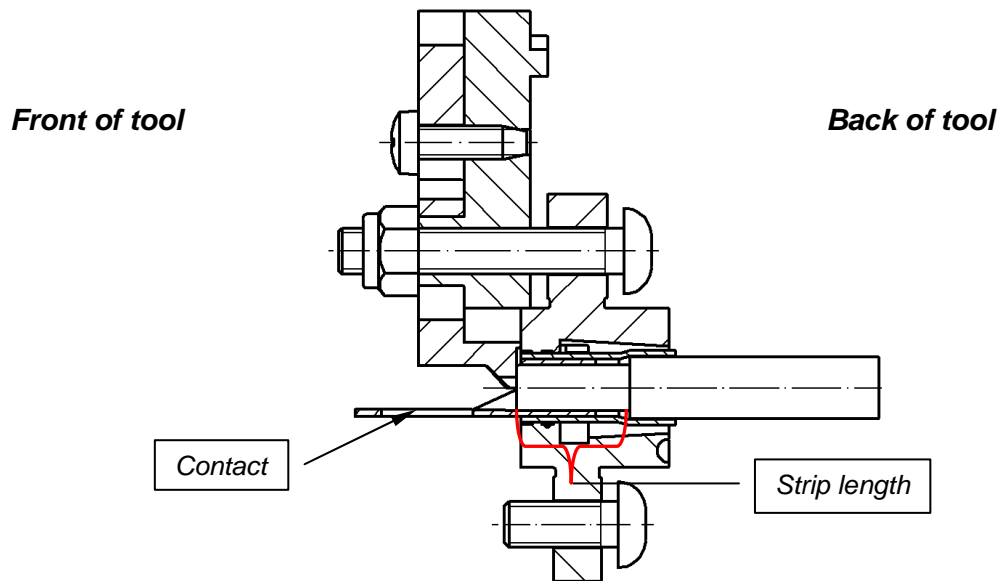

Figure 2
- 4. Insert the stripped wire into the contact wire barrel (see figure 2).*